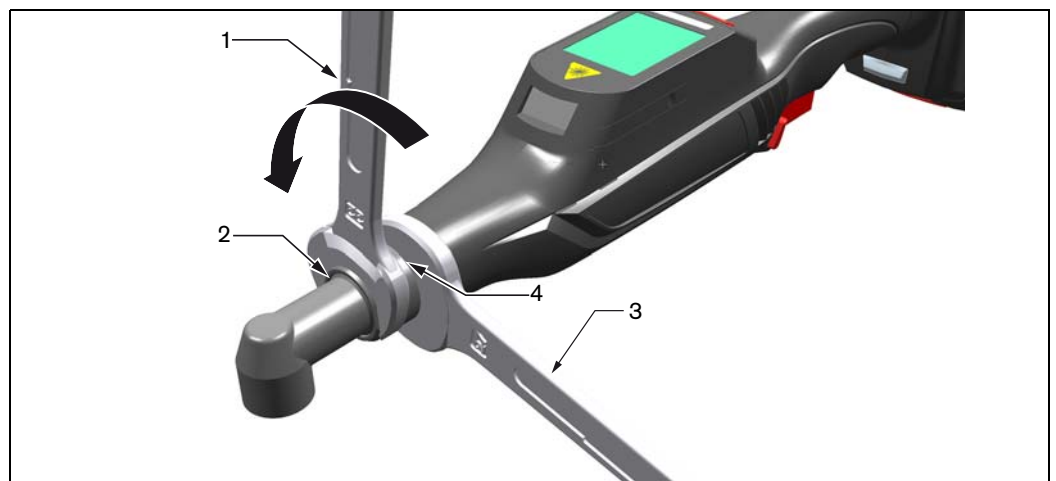

Fig. 4-1: Loosening the angle head
1. Use open-end wrench 3 to hold the hand-held nutrunner at wrench face 4 of the angle head flange (see figure 4-1).
2. Use open-end wrench 1 to loosen the union nut at wrench face 2 (see figure 4-1).